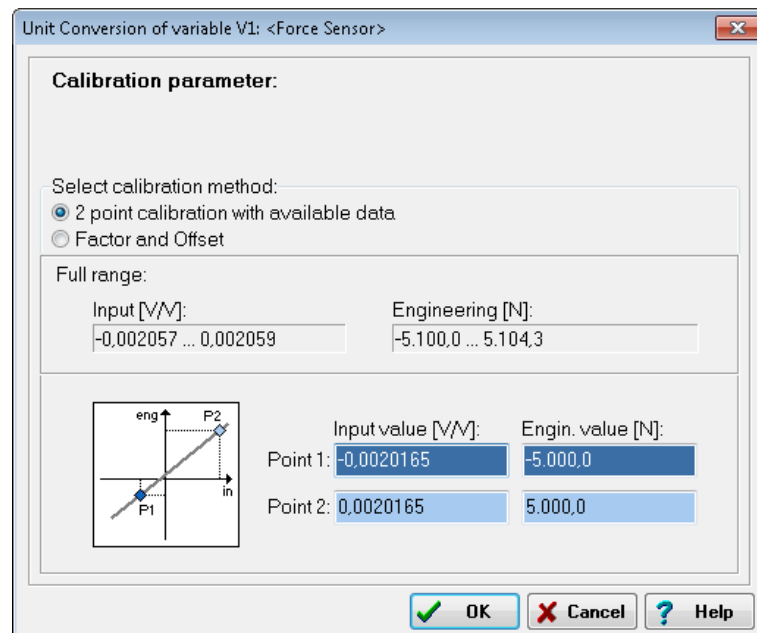

Fig. 6-9 Scaling dialog
3. Enter the transducer (sensor) data from the calibration certificate or from the data sheet (example: refer to Fig. 6-9 on page 145).